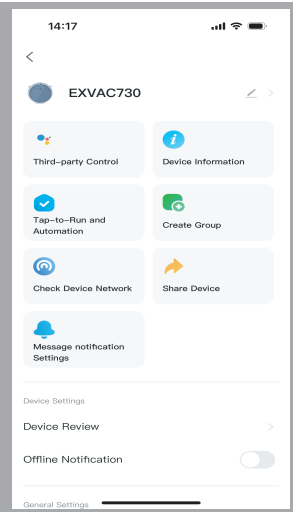

Fig. 14
F). Click “” on the main interface and enter into the interface Fig.14, users can get to know the guides of connecting EXVAC730 to the third-party, such as Alexa, Google home, etc, to create group, to share the device to family, to check device information, to update the firmware of the robot and remove the device.